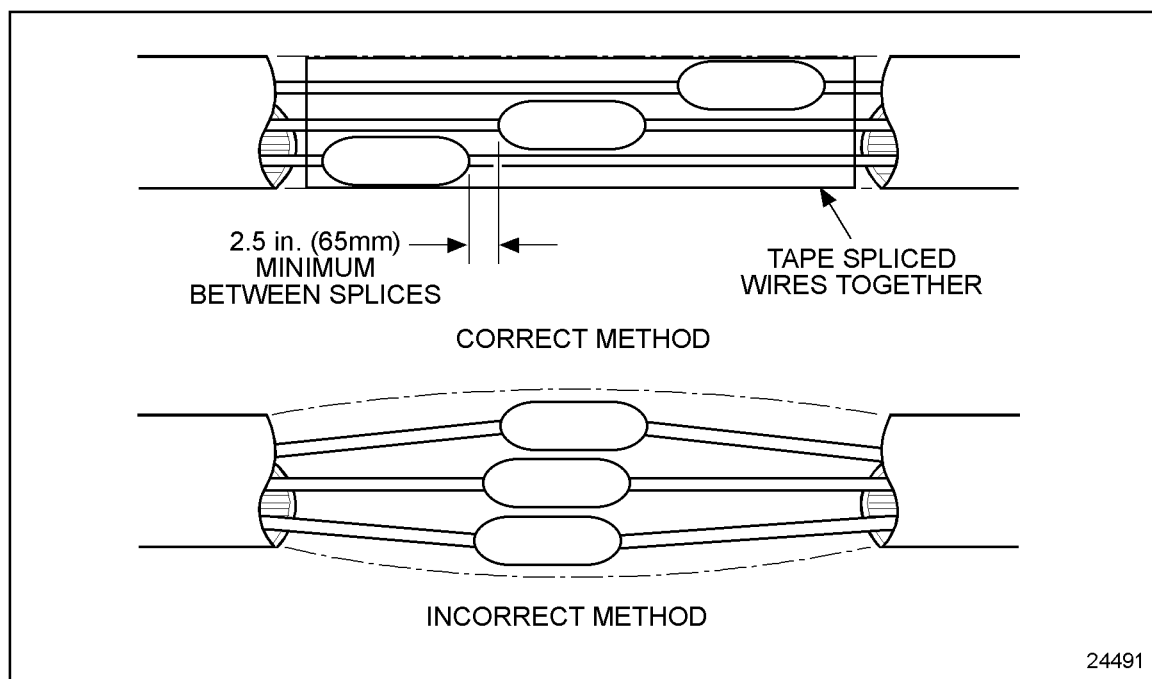

Figure 8-37 Staggering Multiple Splices
1. Stagger the position of each splice allowing at least a 2.5 in. (65 mm) separation between splices. See Figure 8-37.